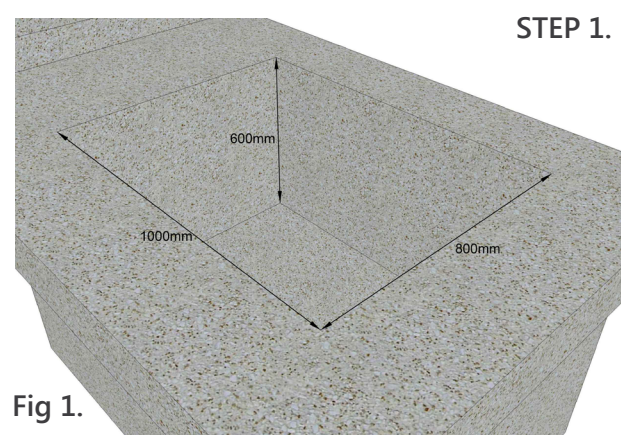

Fig 1.
A. Form a concrete box to the same structural integrity as the rest of the concrete slab or raft. The box should be at least 600 mm deep x 800 mm wide. The dimension perpendicular to the wall accommodates the connections to the sump and should be 1000 mm as in Fig. 1. Alternatively create a recess 250 mm towards the wall, 100 mm deep and 800 mm wide. The dimension perpendicular to the wall accommodates the connections to the sump and should be 1000 mm as shown in Fig. 2.
B2. Fit the discharge line 'S' Bend to the Bulk Head connection (Part A). If two discharge lines are to be used, one for each pump, fit the second 'S' Bend to the other Bulk Head connection. Ensure the 'S' Bend is straight so that the outlet is at its highest possible position and glue into the Bulk Head connection. Fit the Blank(s) Part M to the outlet(s) S bend (Part D) See Fig 1. adjacent. Fix the two conduit pipes Parts J & K) to the sump wall connectors. Route the two lengths on conduit back into the sump as shown in drawing adjacent.